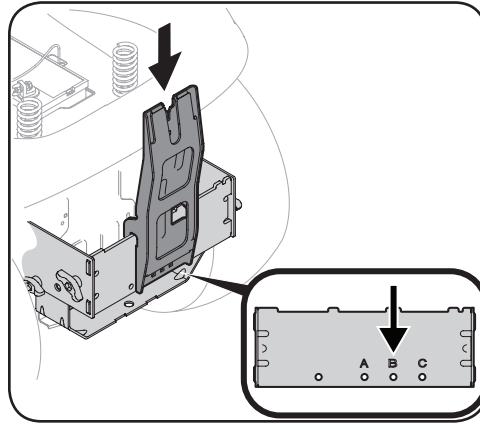

Figure 4-9
1. Install the upright support bracket onto the mounting assembly on the tractor by hooking it over the cross mounting bracket. See Figure 4-9.
2. Align the upright support bracket with the hole labeled "B". See inset in Figure 4-9.